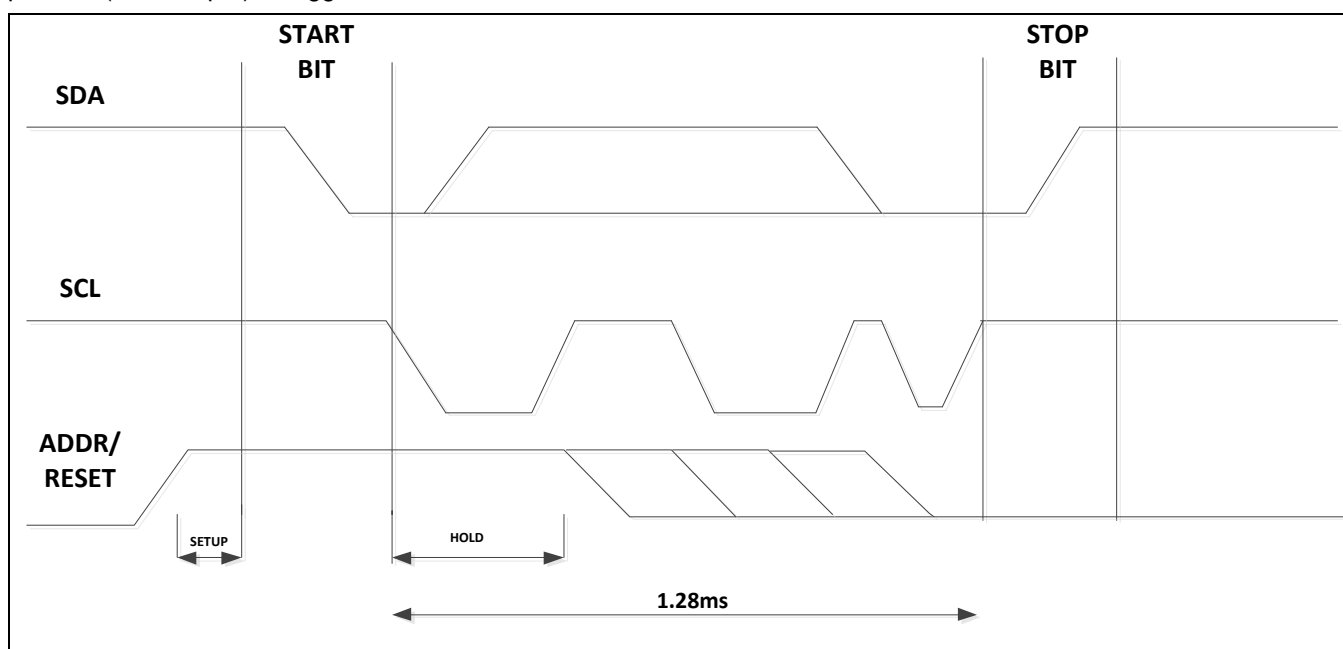

Figure 2. Reset Assert and Deassert Timing Sequence
After the initial powerup, the ADDR/RESET multiplexed pin acts as a digital input pin for RESET. The RESET can be asserted by using both the RESET pin and a request in the SMBus module by using SCL and SDA (START and STOP detection). As shown in Figure 2, the following sequence asserts RESET in MAX34427:
1. Pulling RESET pin from low to high before a START condition of SMBus, triggers a RESET sequence. The “setup” and “hold” time to hold Reset “high” is around $40\mu\text{s}$ as shown in Figure 2. It ensures the correct sampling of Reset pin’s “high” state. Before forcing the “high” state, make sure to leave RESET pin free by defaulting the controller I/O drive on the pin to “high impedance”.